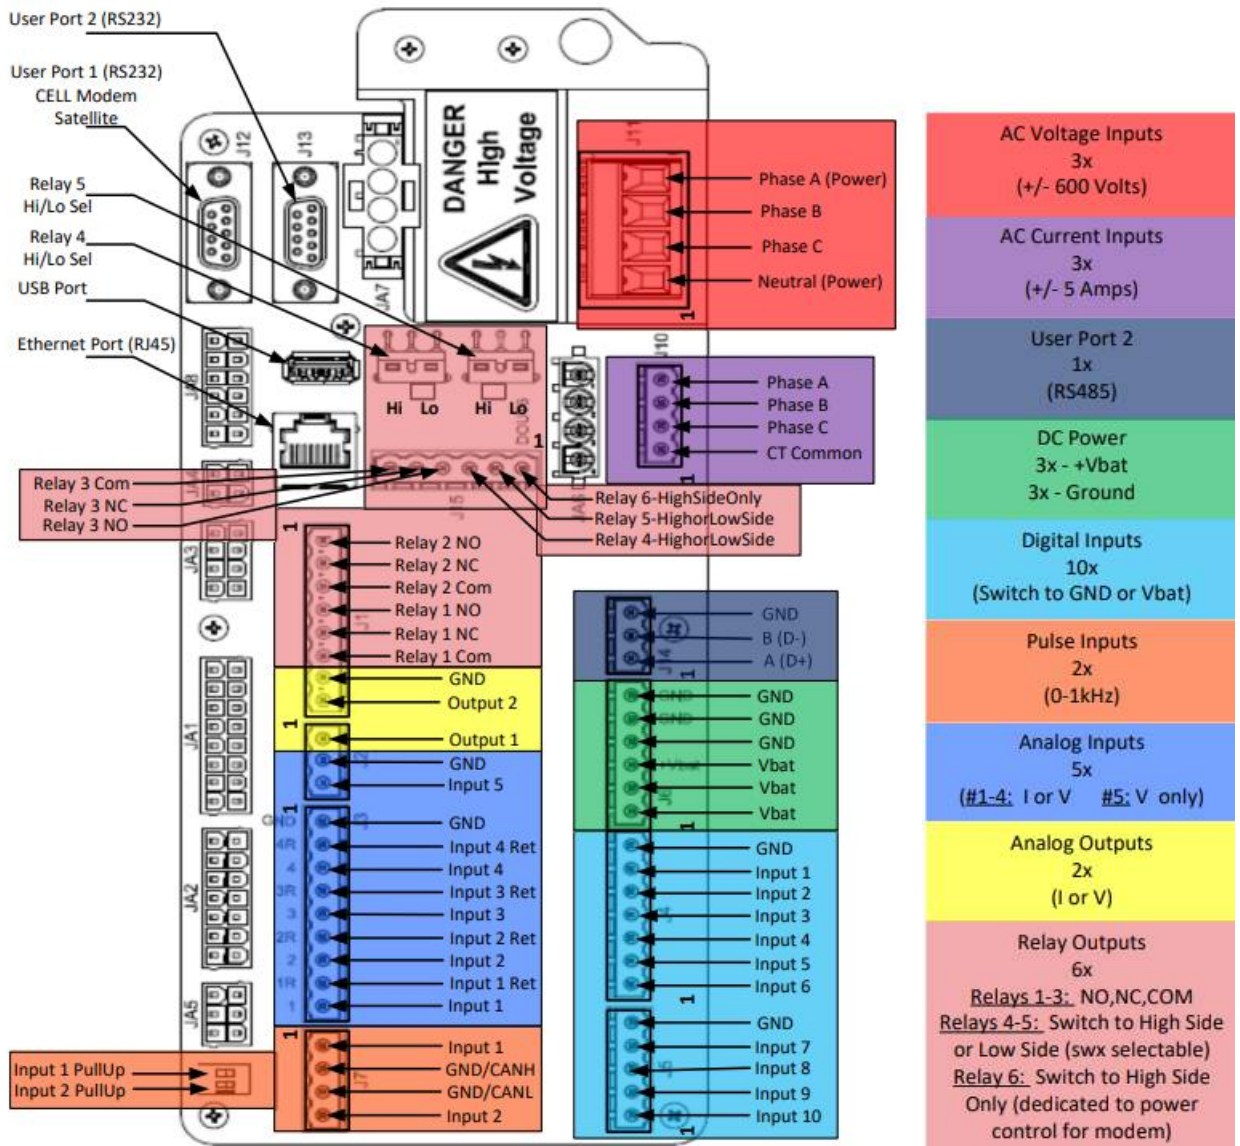

Figure 1
2. Wire I/O connections using the screw terminals on the quick disconnect plugs in their respective channels and connect the black terminal to the back-up battery. See **Figure 1** for a quick reference diagram. For more detailed information, reference the schematic drawings and online manual found at www.cattron.com.